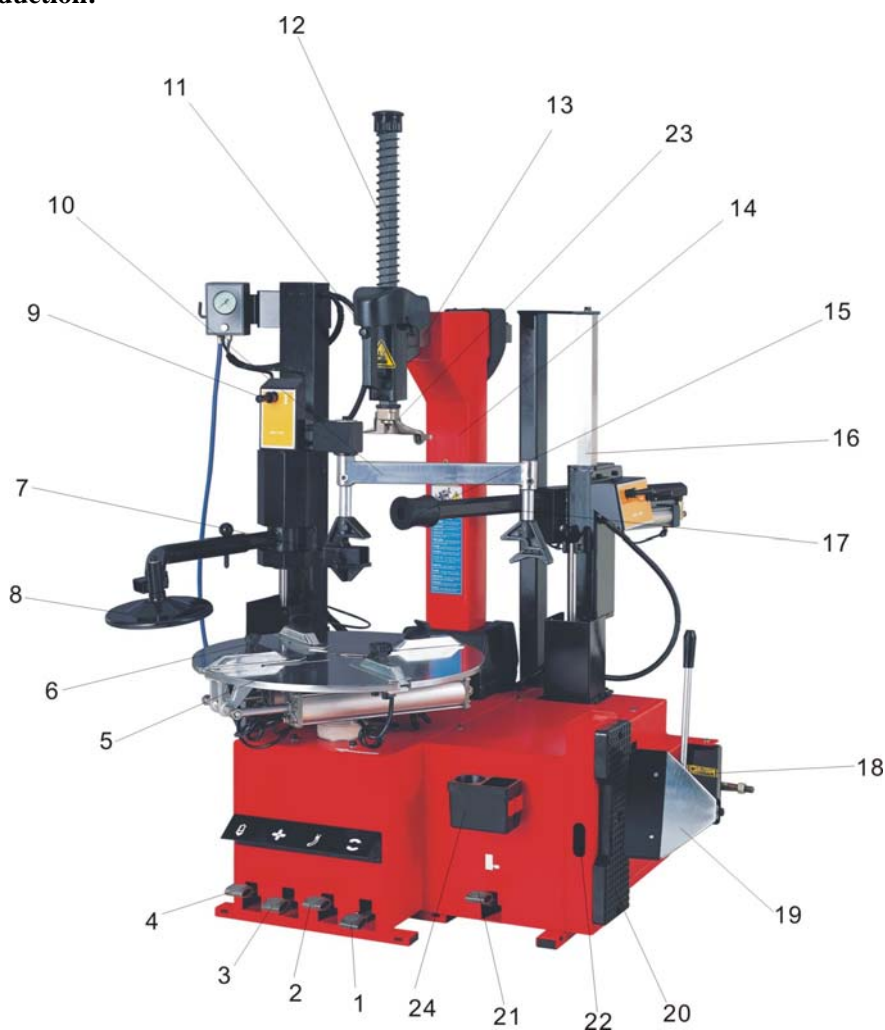
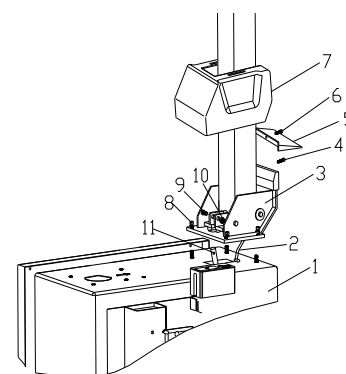
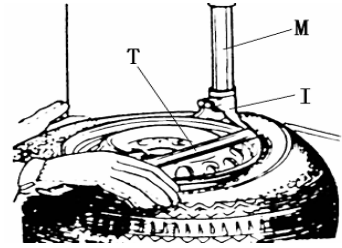

Fig 3
Fig 4
Fig 8
2) Place the tilting seat (3, Fig 4) on the body (1, Fig 3) with 4 bolts (M12), push air hose (2, Fig 4) through the hole of the column. Tighten 4 self-locking nut (8, Fig 3).
3) Insert screw (9, Fig 4) into the holes of both column and tilting cylinder shaft (11, Fig 4), tighten it with self-locking nut (10, Fig 4).
4) Unscrew the two bolts on the left cover and remove the cover, connect air hose (2, Fig 4) previously mentioned to the side holes which control the tilting 5-way valve. Fix the left cover.
5) Fix the plastic cover (7, Fig 4) with two bolts (4, Fig 4).
6) Mount the plastic back cover (5, Fig 4) on the column with screw (6, Fig 4).
- 1) Tread the pedal 3(Fig 3), make sure that the claw will not open suddenly
The control device is shown as Fig 3, including:
- 1) Tread the Turntable Rotation Pedal 1(Fig 3), Turntable clockwise rotation; Lift up the Turntable Rotation Pedal 1, Turntable counterclockwise rotation. Keep the pedal in the middle position, the turntable will stop rotating.
- 3) Tread the Bead Breaker pedal 4(Fig 3), the tilting column 14 backwards down
- 1) Pull the slide arm 13(Fig 3) to its working position. When moving the slide arm, do not put hands on the tire rim, avoid scratching hands.
- 2) Make the mounting/demounting head 23(Fig 3) lie on the rim edge, press the button 11 to lock the slide arm 13(Fig 3) and hexagonal vertical arm 12(Fig 3). The mounting/demounting head will be rise 2-3mm upward and moved 2-3mm backward.
- 3) Insert the Lifting Lever 22(Fig 3) between the tyre bead and the front section of the mounting head/demounting head, and move the tyre above the mounting head/demounting head as shown as **Fig 8**. **Caution** :Place the air nozzle on the right side about 10cm from the mounting/demounting head in order to avoid extruding the inner tire. With the Lifting Lever held in position, depress the Turntable Rotation Pedal 1, rotate the Turntable 5 in a clockwise direction until the tyre is completely separated from the wheel rim. Keep your hands and body away from the rotation parts to avoid accident. **Caution:** If the rubber is very hard and easily slide from the mounting/demounting head, rotating the turntable anticlockwise about 1-2cm before clockwise rotation. Keep the lifting level in position shown as Fig 8
- 6) Tread the pedal 4(Fig 3), the tilting column 14 backwards down. Take down the tire from the tire rim
- 3) Pull the slide arm 13(Fig 3) back to its working position. When moving the slide arm, do not put hands on the tire rim, avoid scratching hands
- 5) Let one side of tyre down bead above the rear section of the Mounting head/demounting head, the other side under the front section of the Mounting head/demounting head. Shown as Fig 8
Move the device with a forklift truck as illustrated in Fig 8.